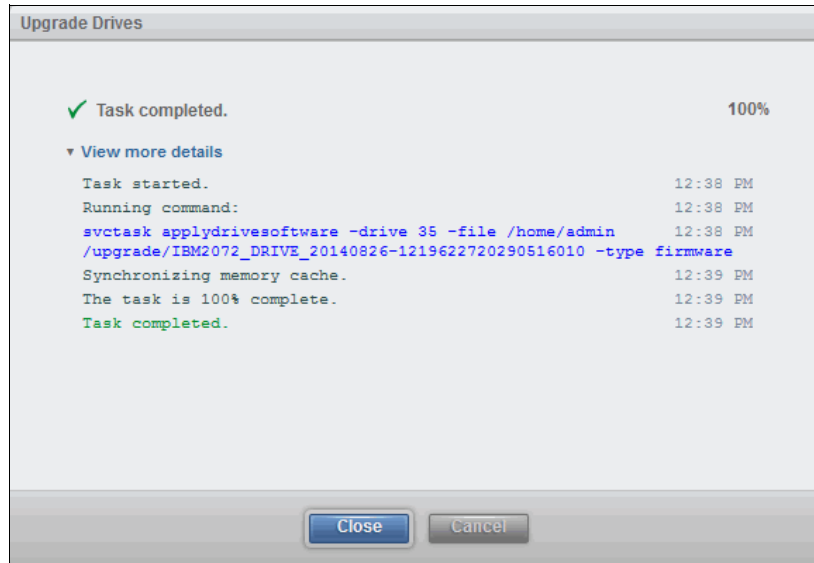

Figure 11-52 Drive firmware update complete
- The drive firmware update takes about 2 - 3 minutes per drive. Figure 11-52 shows the completed task.